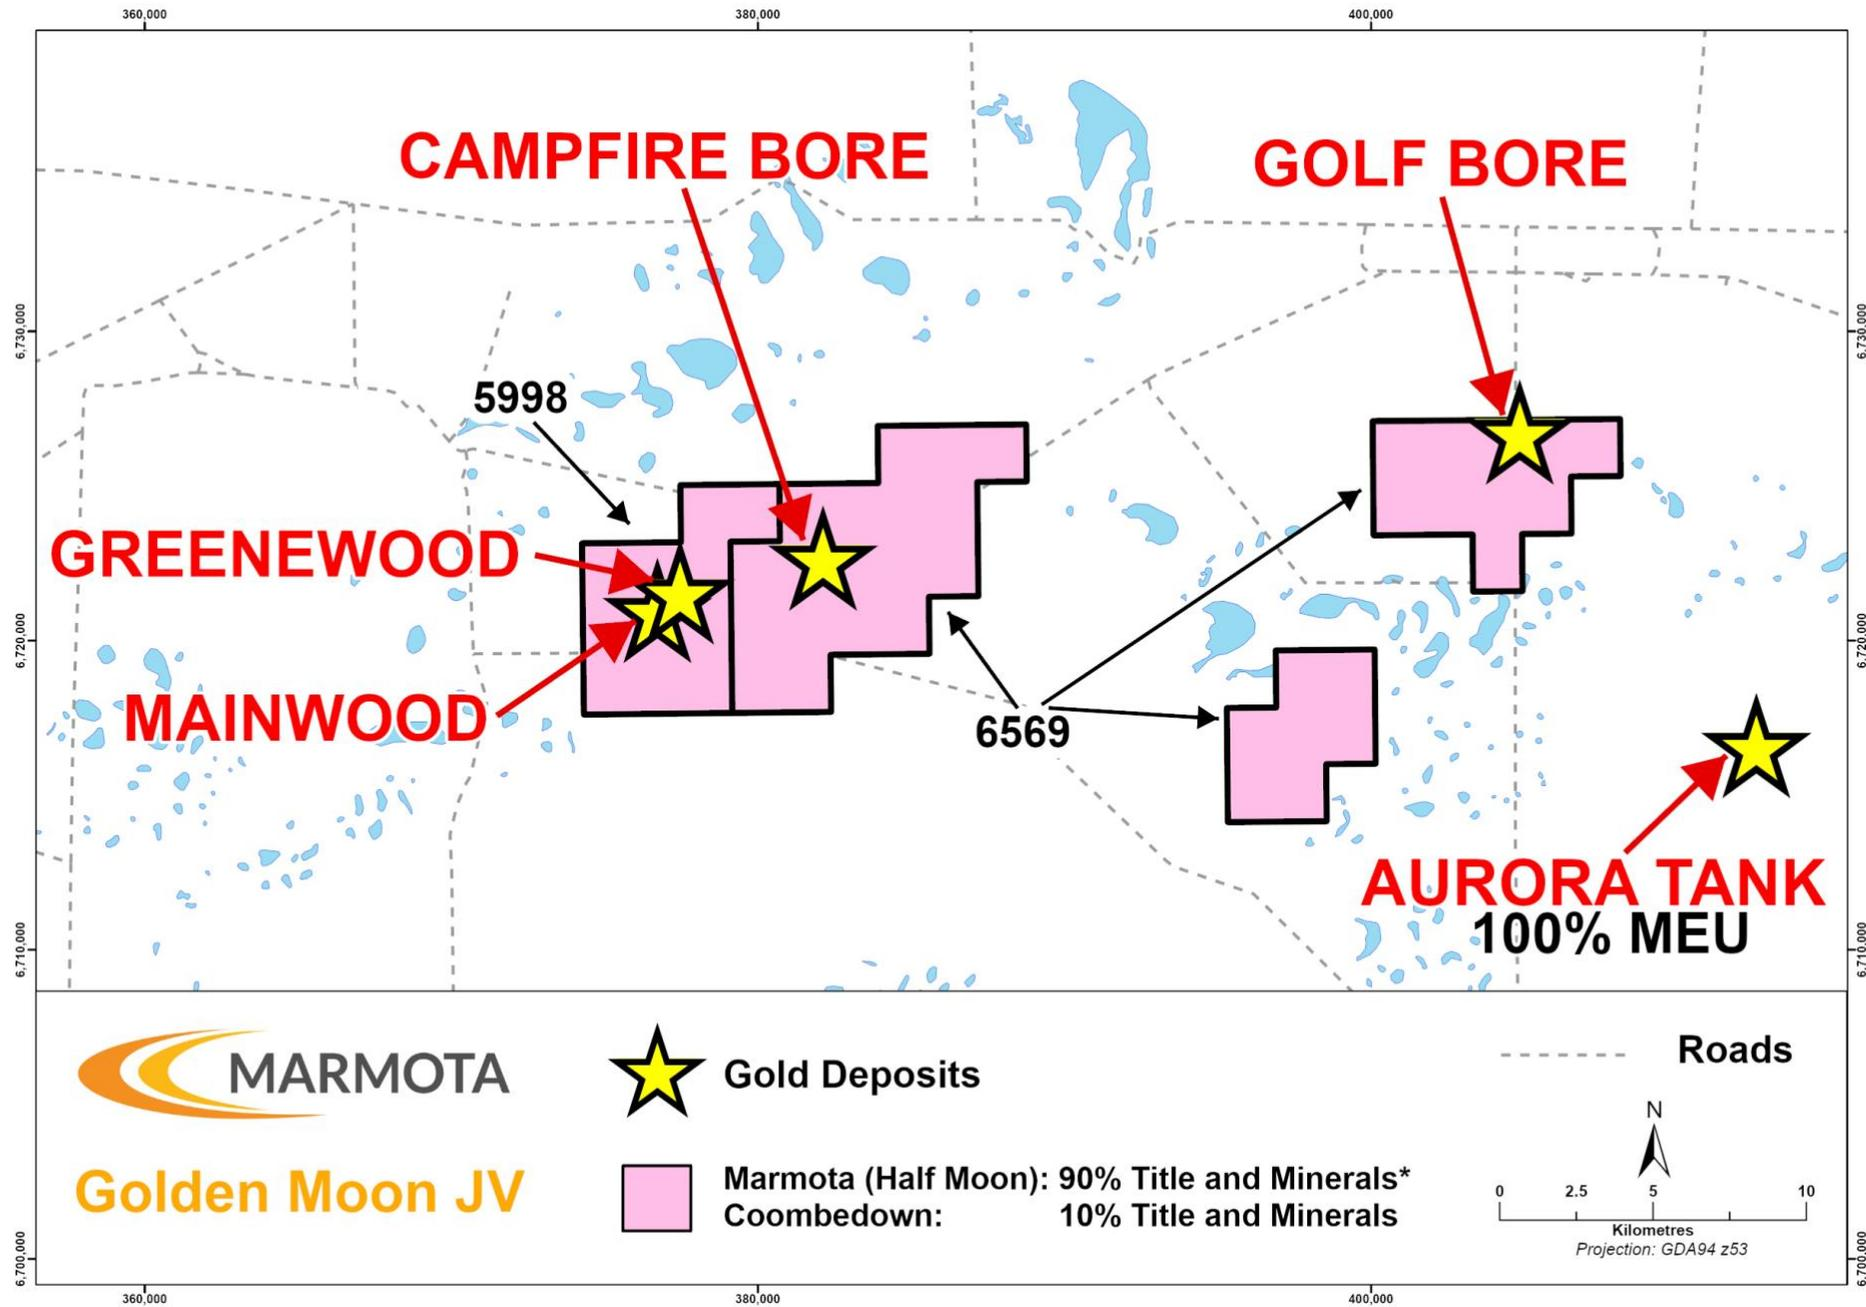

Figure 4: Location of Greenwood and Golden Moon JV deposits adjacent to Marmota's flagship Aurora Tank deposit
- Greenwood is located ~35km NW of Marmota's flagship Aurora Tank gold deposit and ~ 30km NE of the Challenger Gold Mine see [Figure 4 and 5].
- Greenwood's proximity to Marmota's flagship Aurora Tank gold discovery (100% owned) creates obvious economies of scope and scale that are patently attractive see [Figure 4 and 5].
Marmota's Gawler gold project comprises an arc of gold deposits along the flanks of the major 'Y'-shaped gravity anomaly in the NW Gawler Craton. The '**Arc of gold**' deposits include (from east to west: see Fig. 4 and 5):